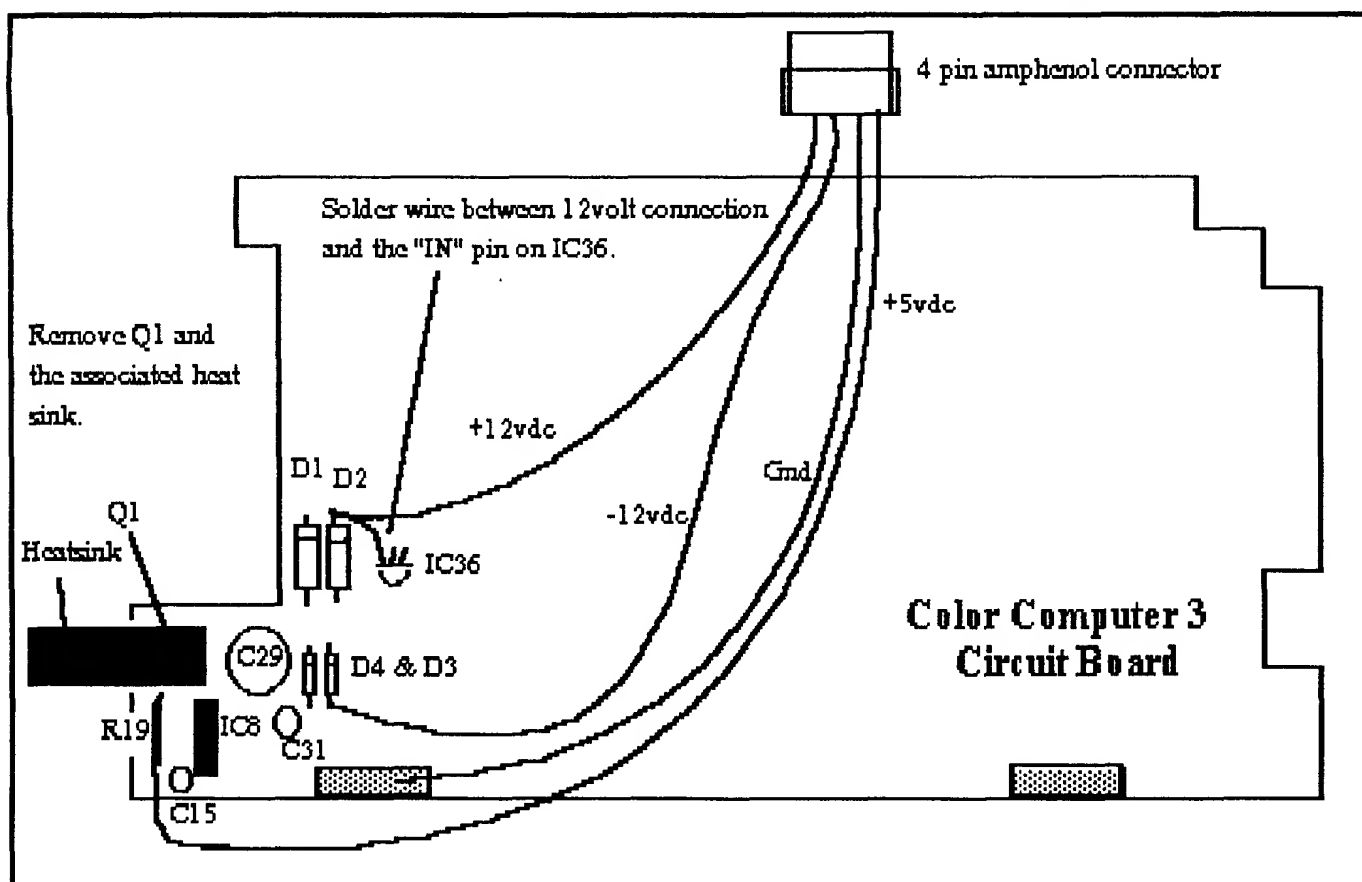

Fig 1.
10. **CONNECTING PC POWER SUPPLY:** Solder approximately 1 foot of hook up wire to the +12 vdc, -12 vdc, +5 vdc and Ground traces on the multipak, and the Color Computer circuit board. 12. Solder a short length of wire from the +12 vdc connection on the Color Computer to the +8 vdc regulator on the Color Computer circuit board. (See pages 6, 7 & 8, Fig. 1, 2, 3, 4 & 5)
**REGARDLESS OF WHICH MULTIPAK YOU USE**, connect the wires to the same amphenol connector that you attached to the CoCo-3 Circuit Board (See Figure 1). Check your work using an ohm meter/continuity checker to be sure that the corresponding voltage lines on both the Multipak and the CoCo-3 are connected to the same pins on the amphenol connector.